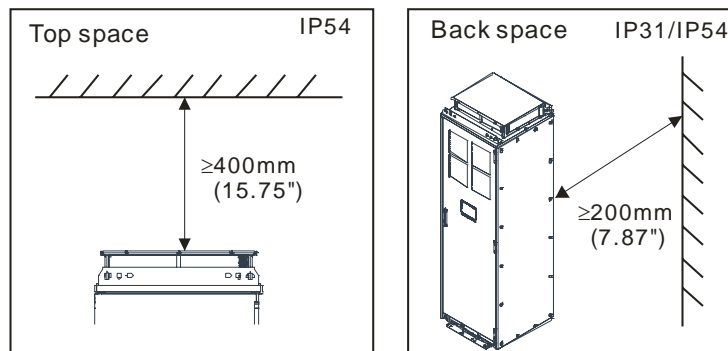

Figure 2-1a
- ☑ When installing the cabinet, the cooling distances are shown in figures 2-1a & 2-1b.